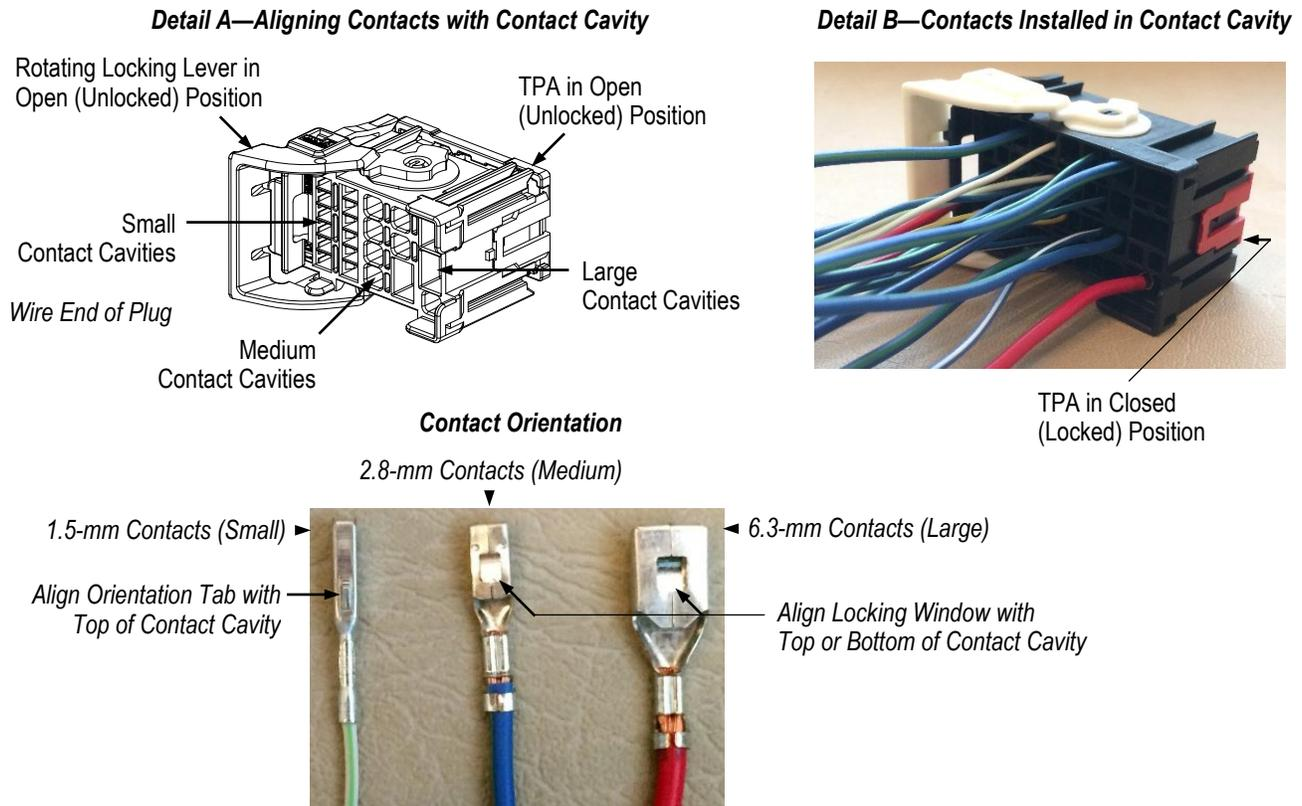

Figure 2
4. From the wire end of the plug, align each crimped contact with the applicable contact cavity as described in Figure 2, Detail A. Grasp the wire of the contact and insert the contact straight into the contact cavity. See Figure 2, Detail B. The retention latch finger of the contact cavity will be deflected by the contact and hold it in place.
The TPA must be moved to the closed (locked) position *after* all contacts have been inserted. Push the TPA evenly into the plug housing until it is flush with the bottom of the housing. See Figure 2, Detail B.